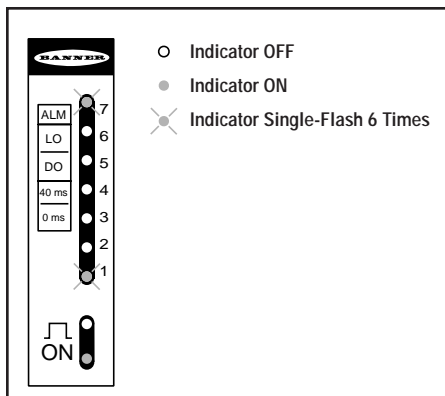

Figure 8. LEDs #1 and 7 flash together, signaling faulty data.
**Display:** LEDs #1 and 7 flash together, 6 times. (Figure 8.)